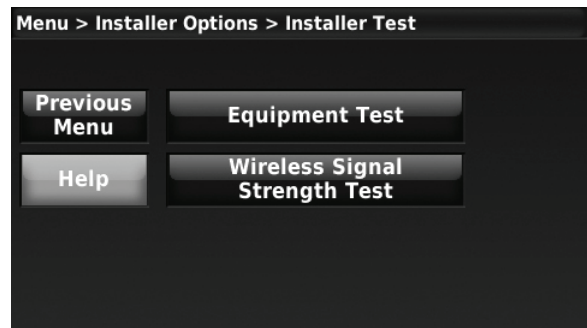

Fig. 62.
1. Press Equipment Test on the Installer Test screen (see Fig. 62). Turn the equipment on/off as needed and then press Next Test to test the remaining equipment. The time out for the Equipment Test mode is 30 minutes (if there is no keypress for 30 minutes, the thermostat will automatically exit the Equipment Test).
1. On the Installer Test screen (see Fig. 62) press Wireless Signal Strength Test.